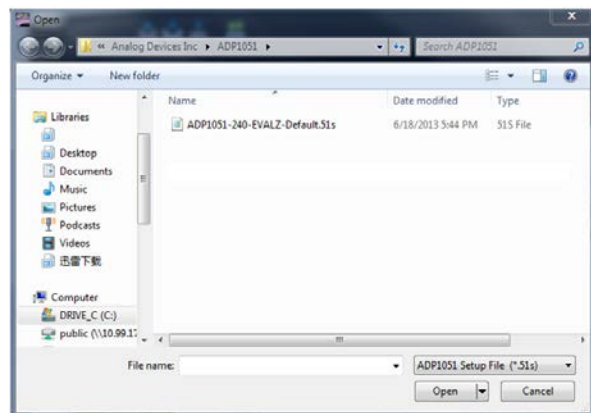
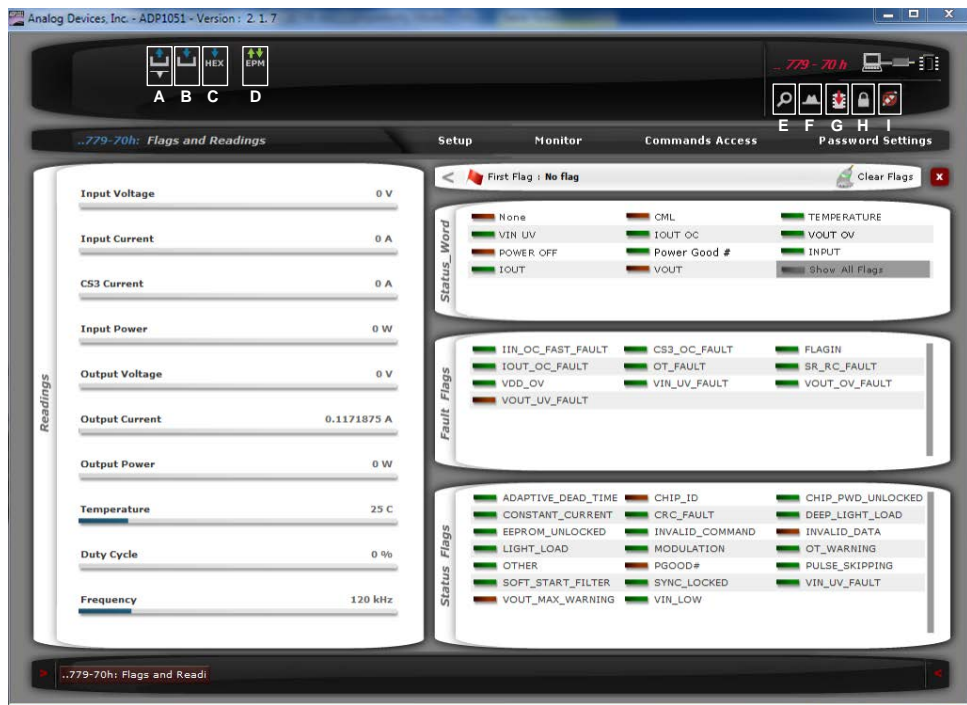
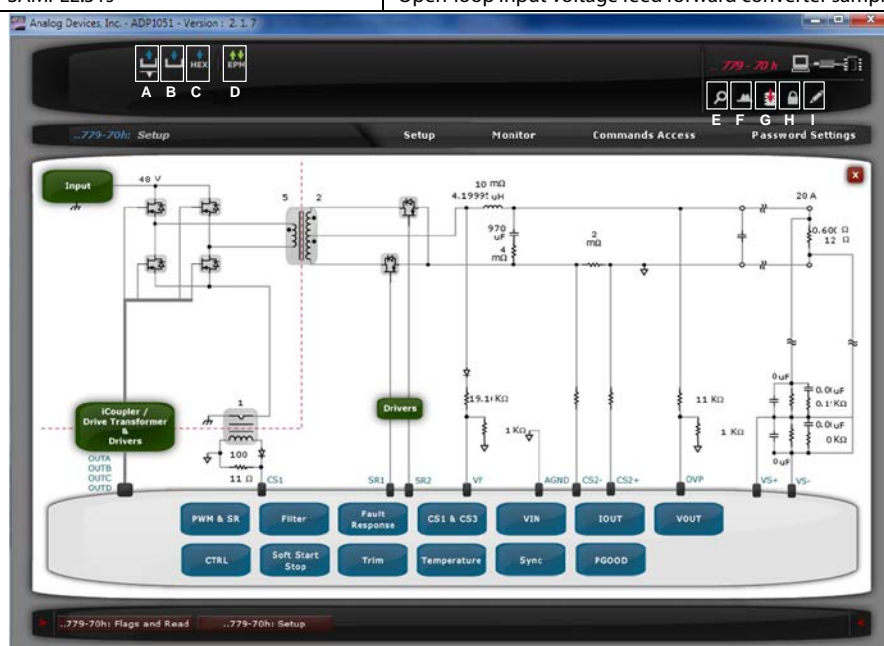

Figure 9. Load Board and Command Settings File
Figure 10. Monitor Window in the GUI
Figure 11. Main Setup Window of the **ADP1051** GUI (See Also Table 8)
7. Click **Finish** to proceed to the **Monitor** window (see Figure 10).
8. Click **Unlock Chip Password** (Button I in Figure 10) and enter the chip password in the following pop-up window. The default chip password is 0xFFFF. Click **Enter** after keying in the password to process the **Setup** tab as shown in Figure 11.
If the user wants to load the default command and board settings file from a local folder, click **Load Command and Board settings from a '.51s' file to ADP1051** (Button A in Figure 11) and select the **ADP1051-240W-EVALZ-Default.51s** file when specifying the folder as shown in Figure 9. Because the **ADP1051** in the evaluation kit is preprogrammed with the board and command settings, this step is optional.
After completing the programming of **ADP1051**, click **Program command and board settings into EEPROM** (Button G in Figure 11) to program the command and board settings into the EEPROM once the user wants to save the settings in the device.
Moreover, the user can use the **Save Command and Board settings from ADP1051 to a '.51s' file** button (Button B in Figure 11) to generate a .51s file for the command and board settings.
Figure 11 shows the main window. There are four tabs total in the main window: